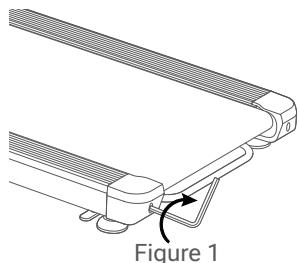

Figure 1
- If the walk belt has shifted to left, use the **hex tool** to turn the left idler roller screw clockwise **1/4** of a turn(refer to figure 1).